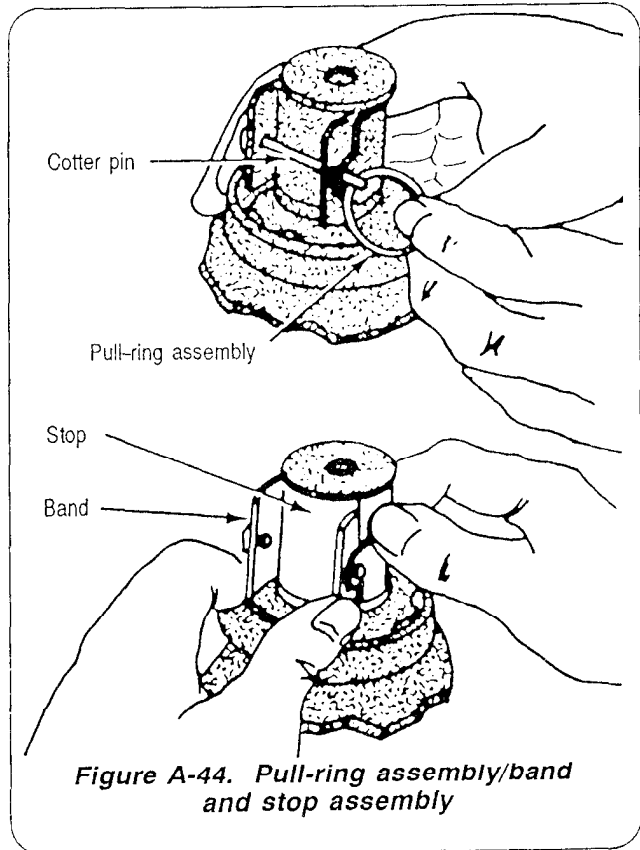

Figure A-44. Pull-ring assembly/band and stop assembly
c. Slowly and carefully remove the band and stop assembly from the neck of the fuze (Figure A-44).